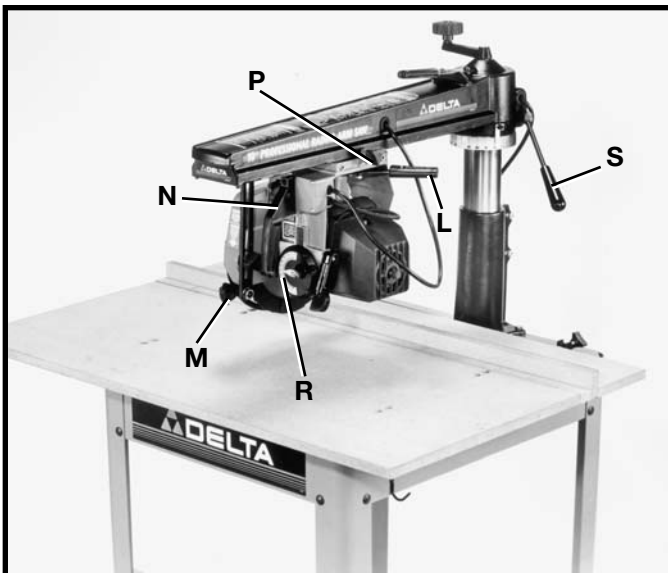

Fig. 7
L. YOKE CLAMP HANDLE. The yoke clamp handle must be loose when rotating the yoke between the rip and cross-cutting position. Pull the handle to release and push it to lock. Fig. 7
M. ANTI-KICKBACK DEVICE. When ripping, the yoke is positioned and clamped so that the blade is parallel to the fence. The rear of the blade guard is rotated until it almost touches the workpiece. The anti-kickback rod is then lowered so that the fingers catch and hold the workpiece. Never rip from the anti-kickback end of the blade guard. Fig. 7
N. ON-OFF SWITCH. Conveniently located switch can be turned on or off in an instant for added operation protection. Switch also can be locked in the off position to prevent unauthorized use using an accessory padlock. Fig. 7
P. CUTTING-HEAD CLAMP KNOB. Locks cutting-head at any position on the track arm. When ripping the cutting-head, clamp knob must be tight. Fig. 7
R. BEVEL SCALE. Indicates degrees of rotation for setting motor bevel positions. Fig. 7
S. TRACK ARM CLAMP HANDLE. Controls rotation of track arm for all miter cutting operations. Locks track arm at any miter angle position. To rotate track arm to the right, loosen clamp handle and rotate arm. The arm will stop at 45 degrees. To rotate past 45 degrees, depress indexing release handle and continue to rotate; arm will only rotate an additional 5 degrees. To rotate to the left, the operation is the same except the indexing release handle must be depressed to start rotating. Fig. 7